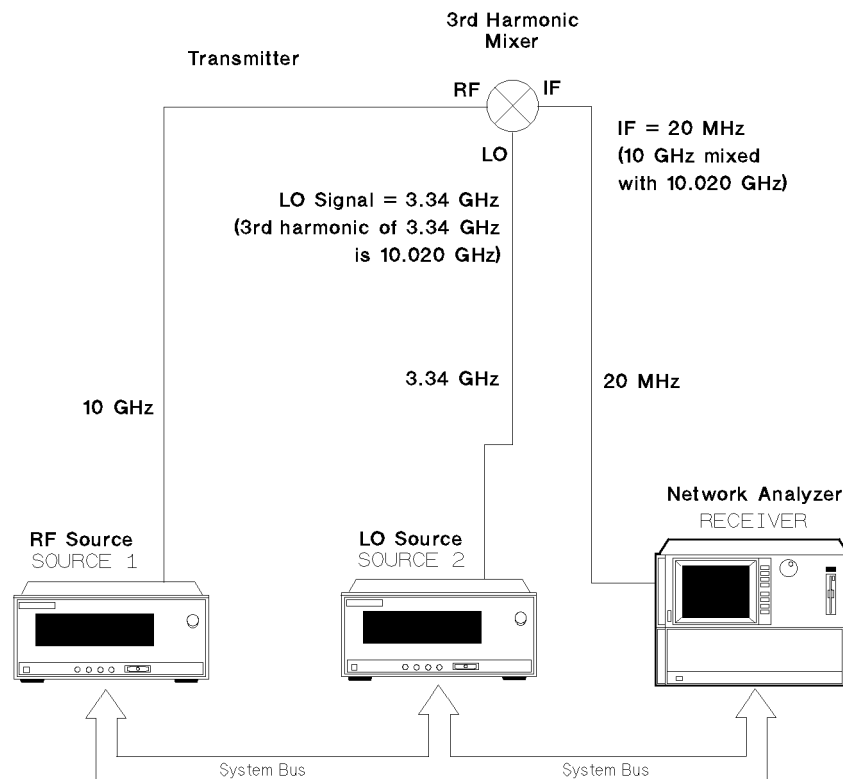
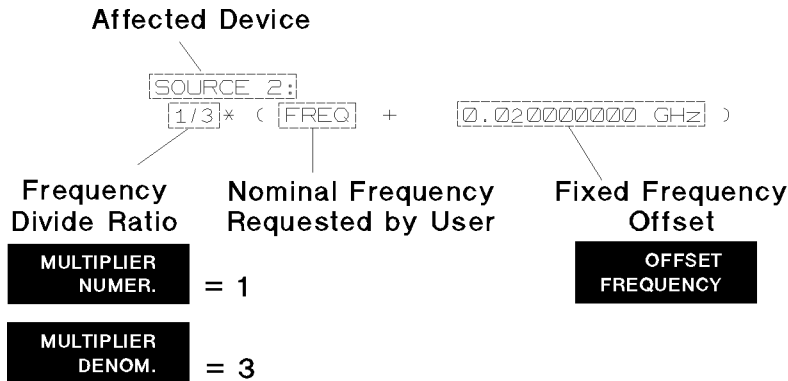

Figure 5-5. Actual LO Frequency Required by a Harmonic Mixer
Figure 5-7. Source 2 Modified for Third Harmonic Mixer System
Many measurement systems require remote mixers, and therefore require an LO source. Such a system is shown in Figure 5-5. The network analyzer controls all aspects of RF and LO source frequencies. In setups that use multiple sources, the Multiple Source Menu allows the network analyzer to properly manage these frequencies.
- The LO source must supply the appropriate LO signal to the mixer. The mixer uses the third harmonic of the LO signal. The network analyzer must compensate by setting the LO source frequency to be 1/3 of the needed frequency. The formula shown in Figure 5-7 would be appropriate for this situation.
Look at the SOURCE 2 line. Like the other two lines, this one is accompanied by a formula. Refer to Figure 5-7 and Figure 5-5.
MULTIPLIER NUMER.	As shown in Figure 5-7, the frequency multiplier is entered as a fraction x/y . This softkey allows you to enter the numerator (x), which is 1 in almost all applications. Terminate this entry with [x1] .
Note that the example setup in Figure 5-5 requires NO changes to the default SOURCE 1 configuration.